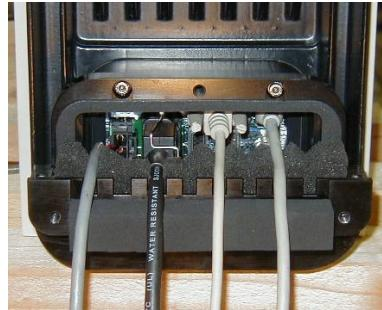

Figure 8-5. Lower Flange in Position
- c. Finally push down on the flange to secure it against the housing. See Figure 8-5 for the lower flange in the installed position.